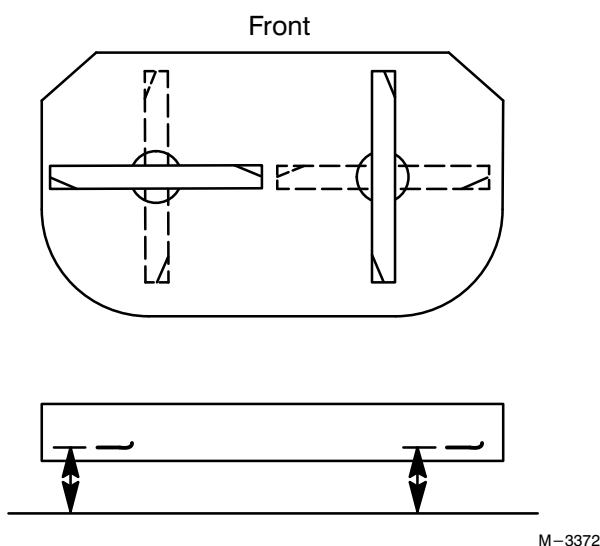

Figure 56
1. Rotate the blades until the ends face forward and backward (Fig. 56). Measure from a level surface to the cutting edge of the blades (Fig. 56). Note this dimension.